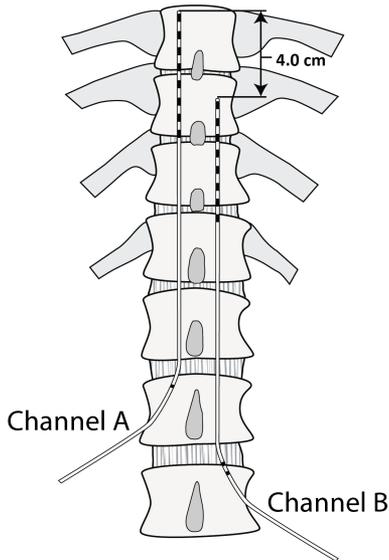

Figure 14
2. Implant the second device parallel to the first (see Figure 14).